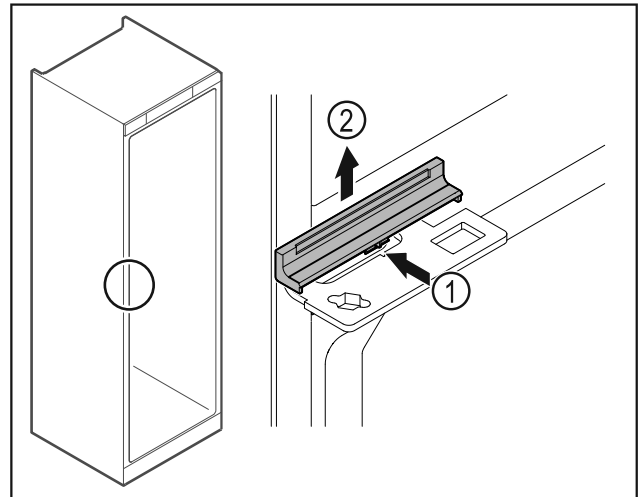

Fig. 38
- Gently press the middle of the cover Fig. 38 (1) and lift it off Fig. 38 (2).